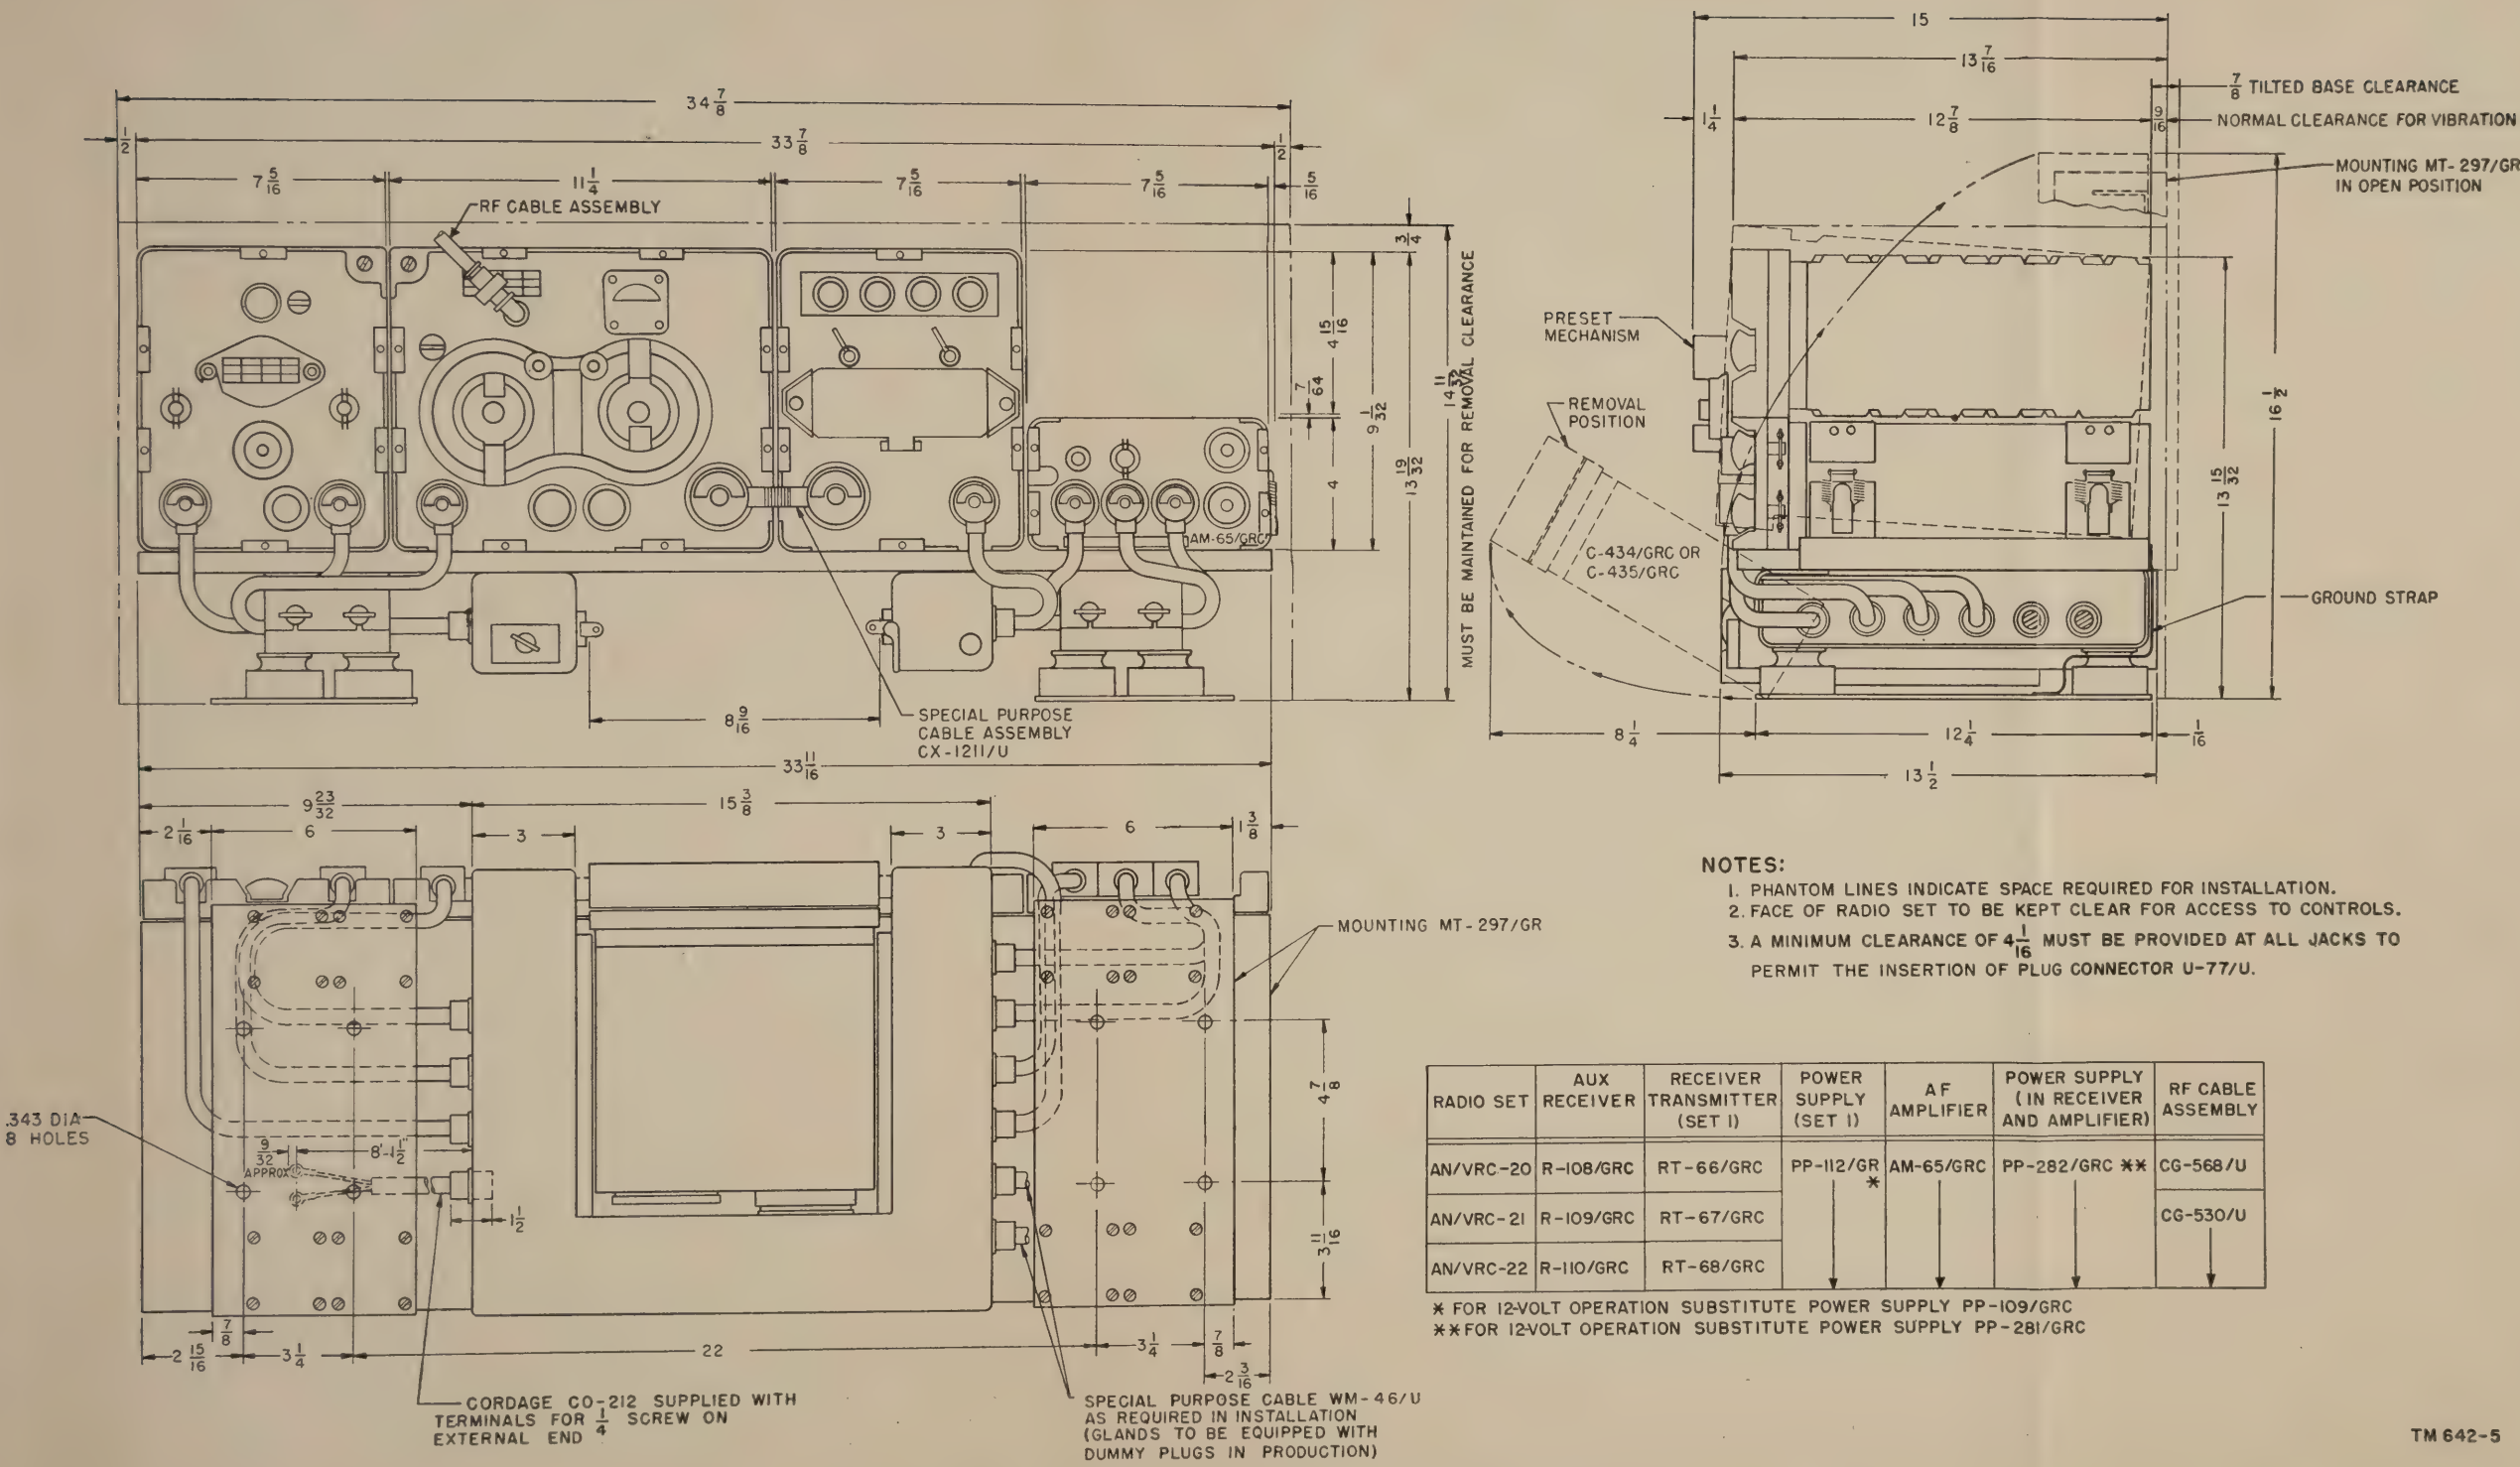

Figure 18. Radio Sets AN/VRC-20, -21, and -22, outline drawing.
*a.* Locate and secure Mounting MT-297/GR in place according to instructions for the particular vehicle. Allow the minimum clearances as indicated in figure 18. Complete all external connections.
j. Spot and drill the eight mounting holes in accordance with the dimensional data (fig. 18). Bolt the mounting to the vehicle.